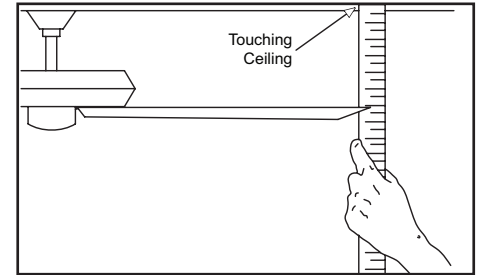

Figure 16
2. Most fan wobble problems are caused when blade levels are unequal. Check this level by selecting a point on the ceiling above the tip of one of the blades. Measure from a point on the center of each blade to the point on the ceiling. Measure this distance as shown in Figure 16. Rotate the fan until the next blade is positioned for measurement. Repeat for each blade. Measurements deviation should be within $1/8''$. Run the fan for 10 minutes.